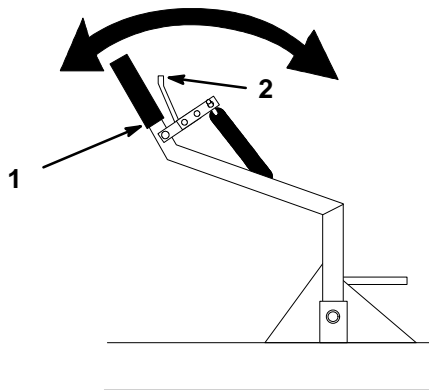

Figure 20
The blade can be indexed side to side, in 5 positions. The direction is controlled by the handle on the right frame (Fig. 20).
1. Squeeze the release lever toward the handle (Fig. 20).